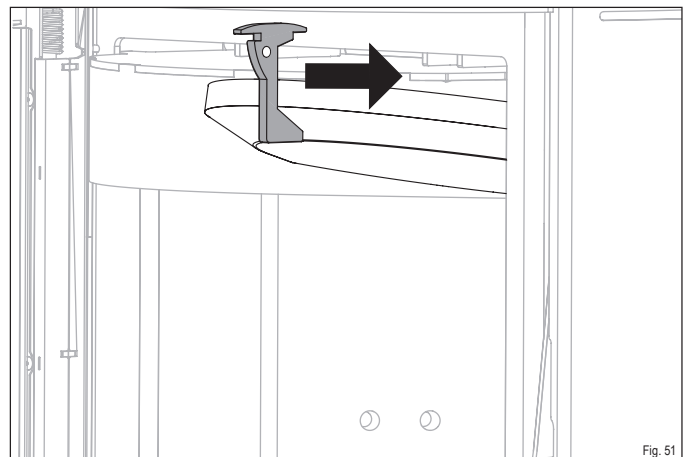

Fig. 51
- ▶ Slide the firebrick retainer forward (Fig. 51).